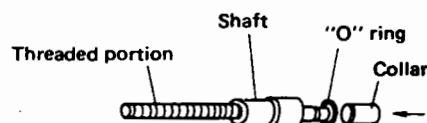

Fig. 15 Measuring tool, backlash
1. (Fig. 15) Install the "O" ring and collar in the groove at the tip of the shaft and screw the plate into the threaded portion of the shaft.